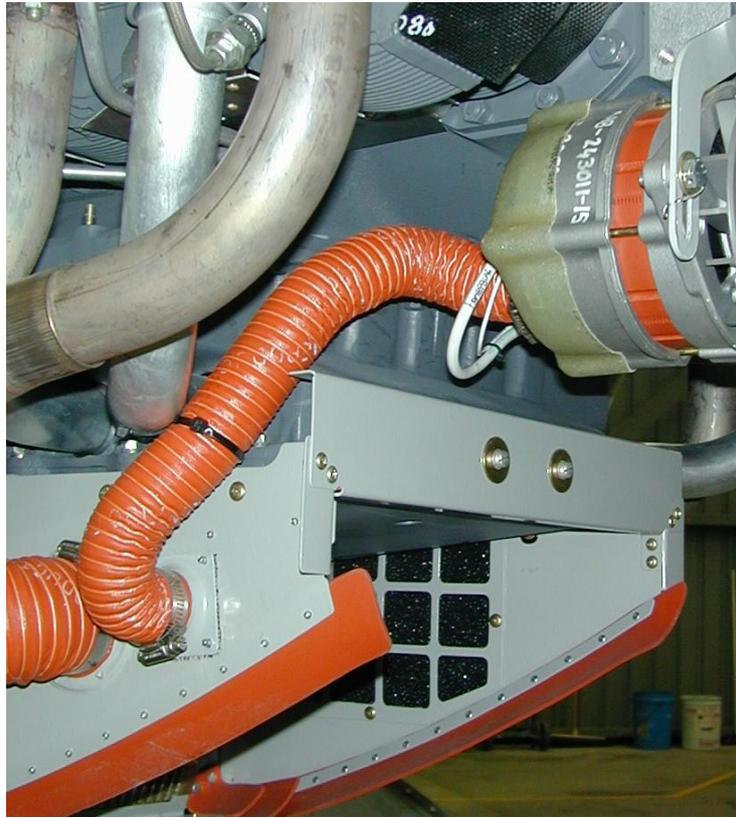

Figure 4
- 1.13. Connect air duct GA8-212024-21 (item 8) from the intake plenum to the alternator shroud and secure using hose clamps (item 7) at each end. Secure the air duct to the induction trunk using cable ties (item 9). Refer to figure 4.